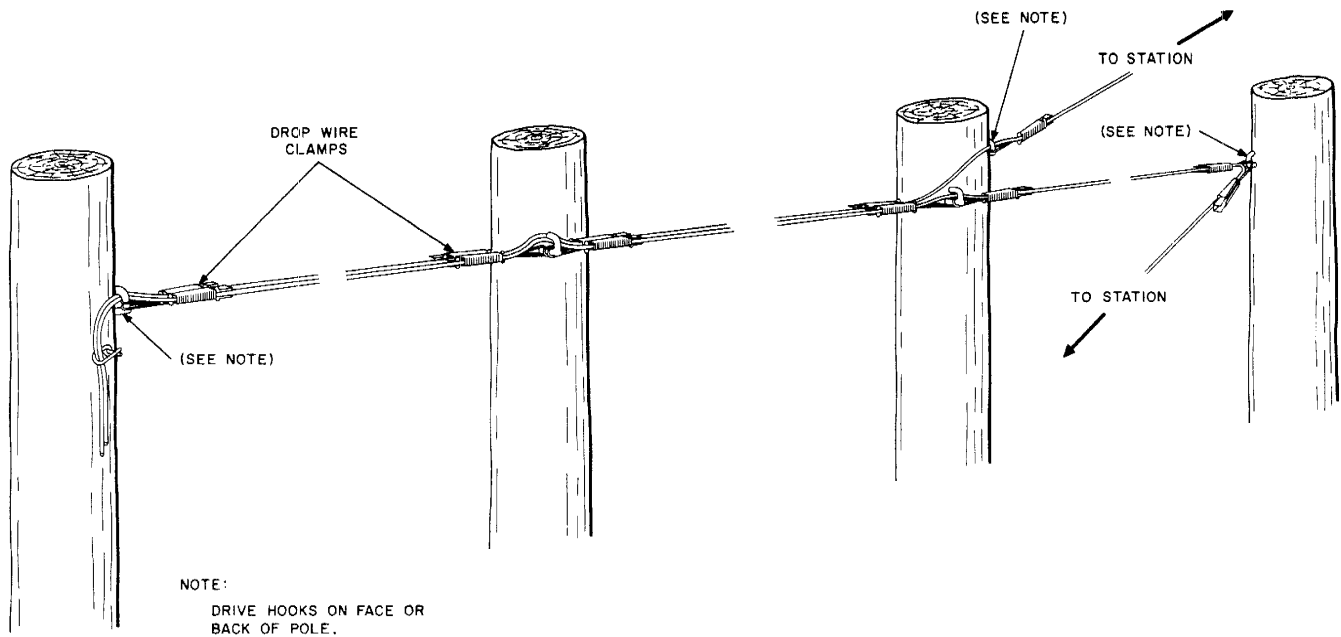

Fig. 6—Drop Wire Run Along Lead Without Cable
3.07 Run drop wires as illustrated in Fig. 6.